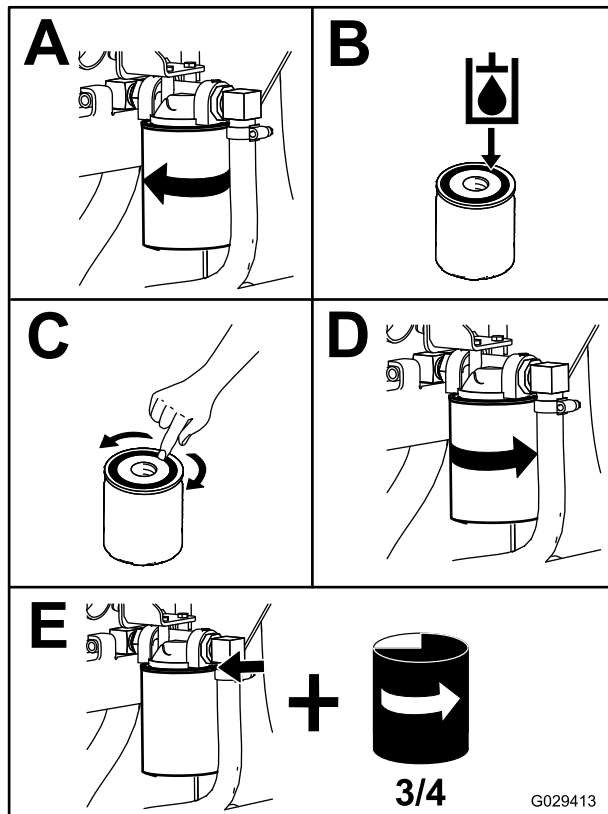

Figure 56
4. Place a drain pan under the filter and replace the filter (Figure 56).